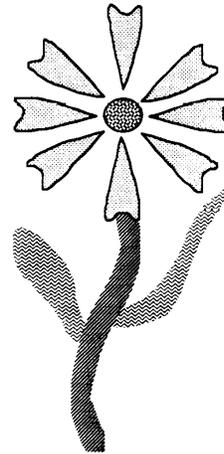

Figure 4-23
1. Refer to the illustration of the flower in Figure 4-23 and choose the top petal as the model for the symbol.